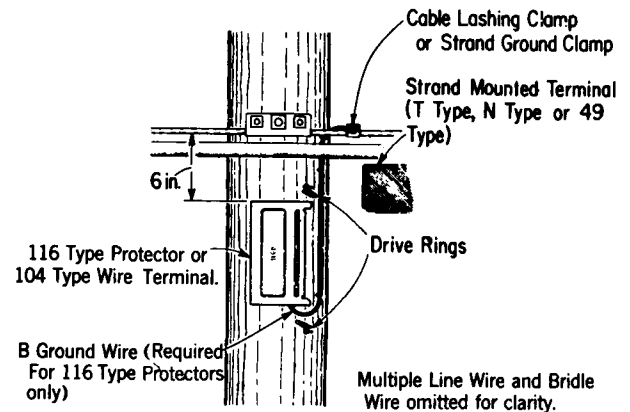

Fig. 15 – Pole With Strand-Mounted Cable Terminal (multiple line wire and bridle wire omitted for clarity)
5.01 The various types of 6-pair wire terminals or protectors should be located on intermediate cable poles as shown in Figs. 15, 16, and 17.